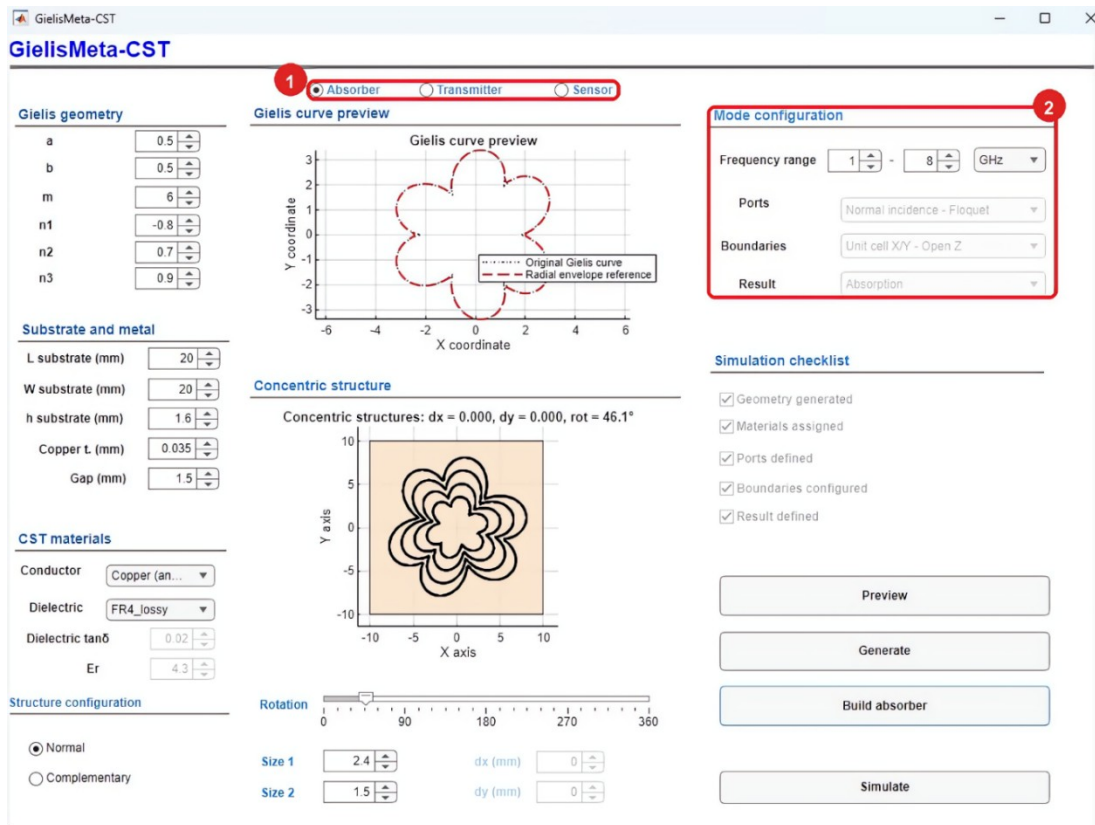

Figure 2. Absorber-mode selection and automatically assigned configuration.
***Note:** Figure 2 shows the configuration used in this example. The values correspond to a Gielis-geometry absorber and may be modified to suit the objectives of the study.*